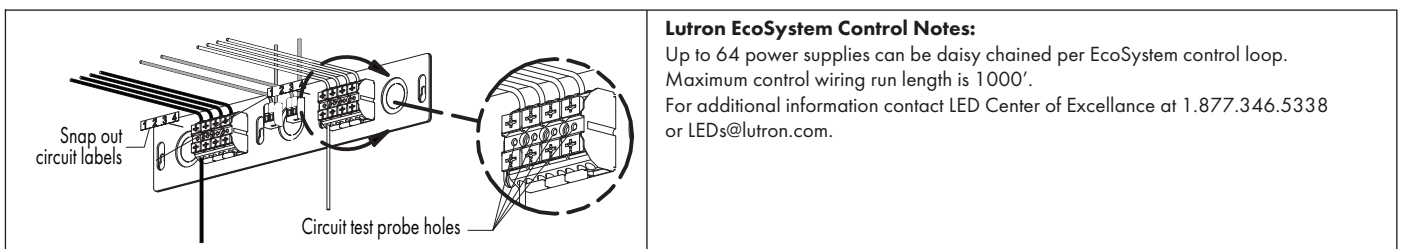

FIG 10.4 Accessing Circuit Probe Holes
3. Check circuit continuity using holes in terminal blocks – FIG 10.4.